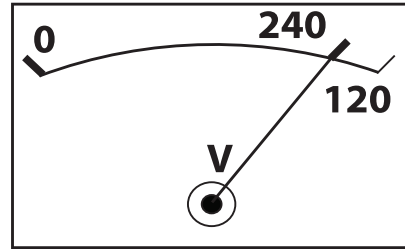

Figure 57. AC Voltmeter (120/240V)
10. Verify that the AC voltmeter is registering a voltage reading as indicated by Figure 57.